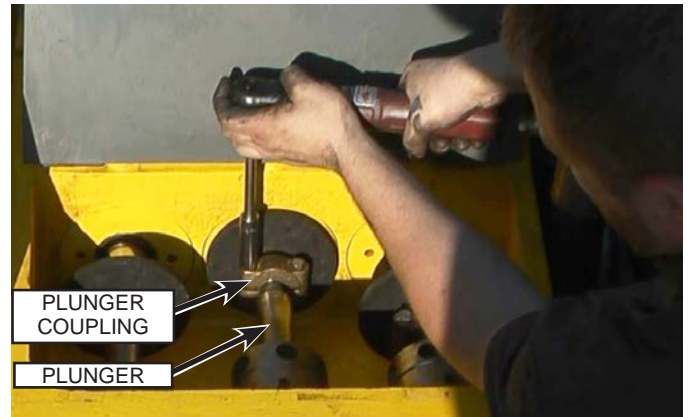

Fig. 77: Plunger Coupling Installation
5. Pull the plunger (Fig. 77) back to meet the crosshead pony rod. If the packing is too tight to move the plunger by hand, the pump can be rotated by hand (via the belts) to move the pony rod to meet the plunger. Place the plunger coupling into position and install the coupling bolts. Tighten the bolts to 20 ft.-lb. (27 N·m).